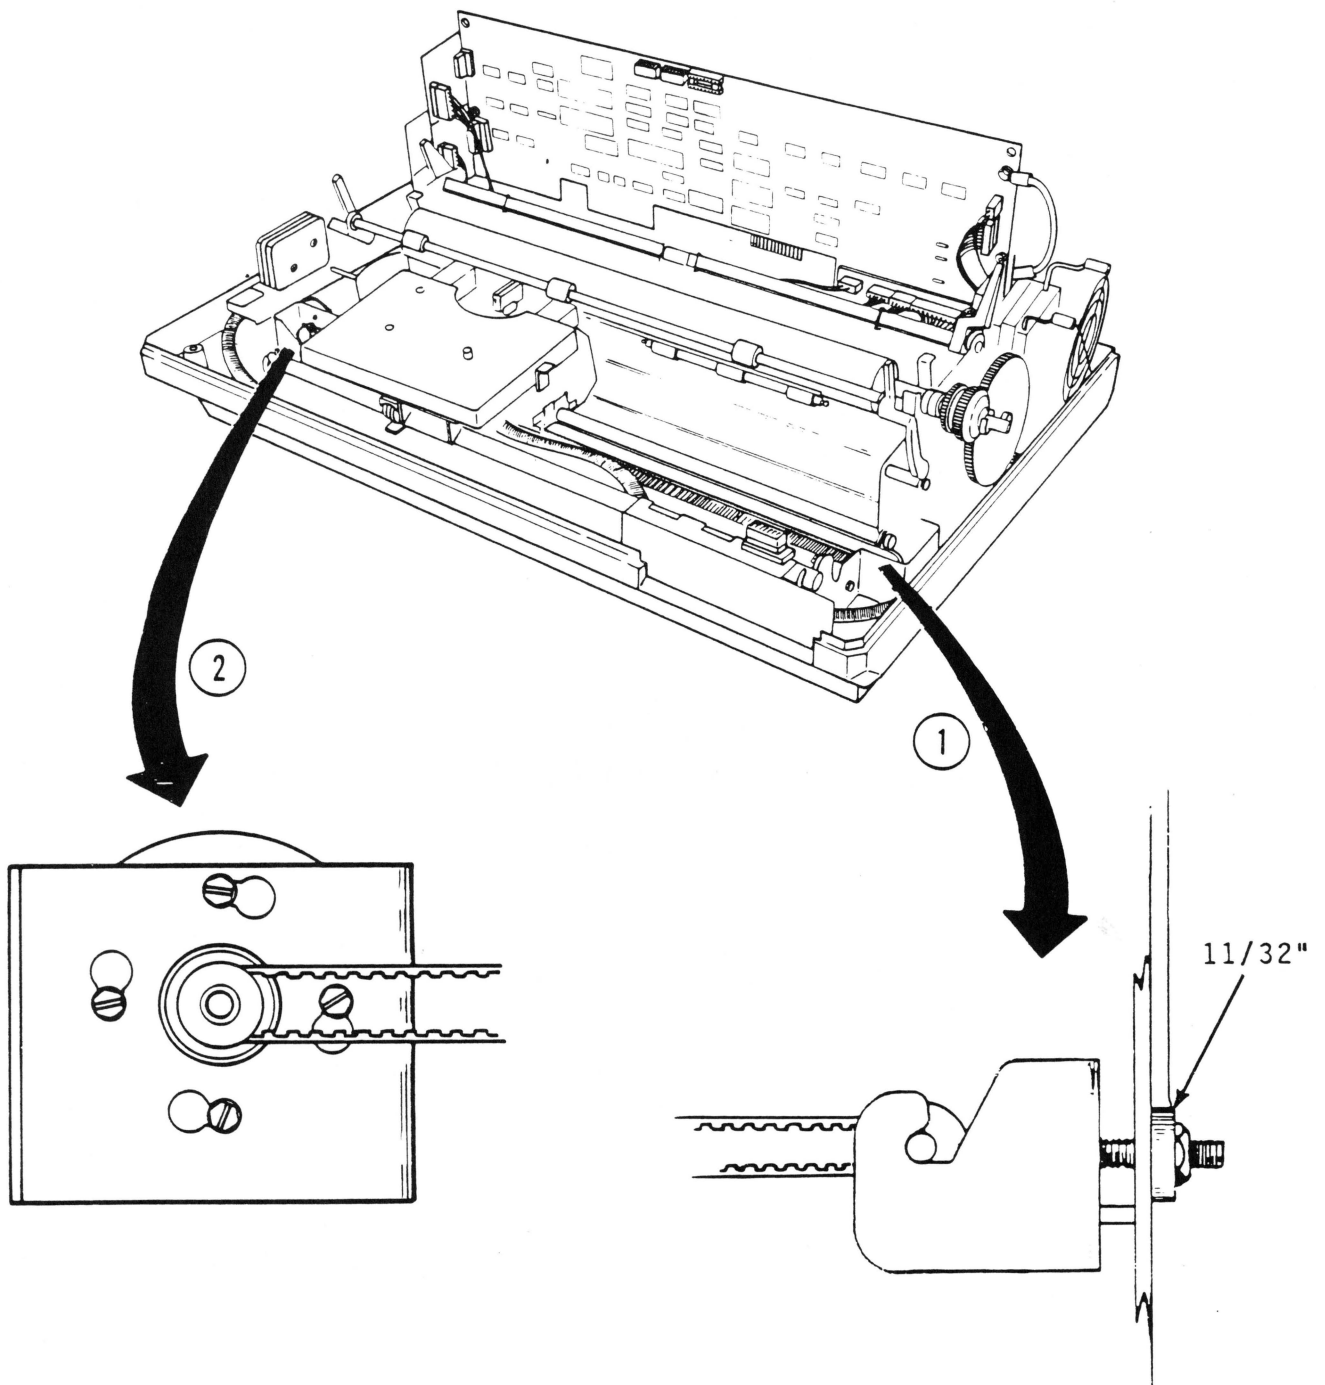

FIGURE 8
4. Use an 11/32 inch open end wrench to loosen the drive belt adjusting nut (on the right side - see Figure 8, #1) to relieve tension from the drive belt. (Do not remove nut from screw.)
6. Use a screwdriver and/or a 1/4 inch wrench to remove the four mounting screws holding the carriage drive motor (see Figure 8, #2). Note the ground wire connector under the top screw - you will replace it later.